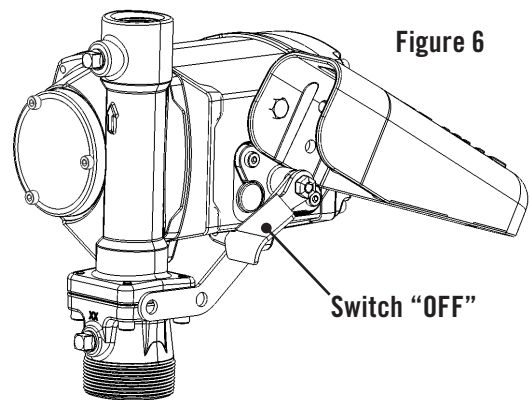

Figure 6
6. Move switch lever to the "OFF" (lowered) position (Figure 6) to stop the motor.
3. Rotate the bypass valve retainer 90 degrees counter-clockwise and allow the spring to gently push it back up to contact the locking tab. The locking tab **MUST** be seated in the indentation in the bypass valve retainer (Figure 6).